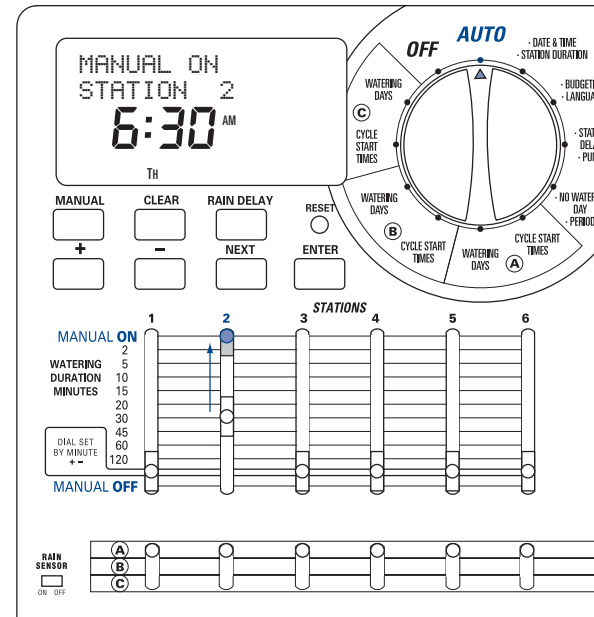

Figure 15: Manual Watering One Station
2. To activate the station, move the station **Watering Duration Slide Switch** to the **MANUAL ON** position (fully up). The display will indicate “MANUAL ON” and the station number being activated. [See Figure 15]